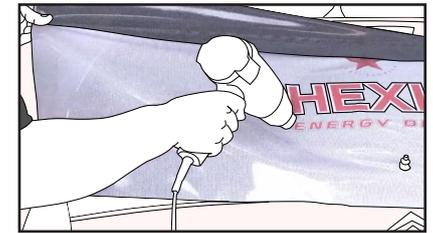

Figure 15
- › Slightly heat the compound so that the film can be stretched a little bit again. (FIG. 15)